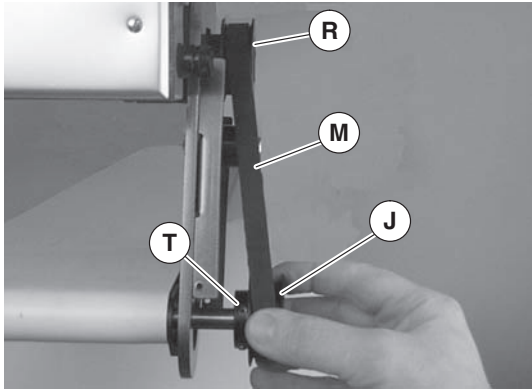

Figure 17
3. Remove timing belt (Figure 17, item M).
If timing belt does not slide over pulley flange, loosen driven pulley set screws (Figure 17, item T) and remove pulley with belt. For re-installation, see steps 6 through 9 on page 9.